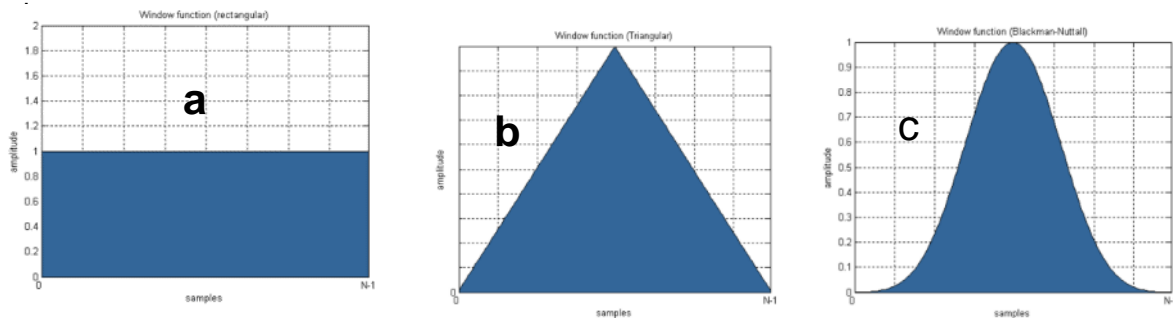

Figure 12: Filter types for the Background Subtraction Filter. (a) Rectangular, (b) Triangular (c) Blackman-Nuttall
- **Blackman-Nuttall** filter type applies more weight to the trace in the center of the window and less to the traces on the edges of the window but uses a shape similar to a Gaussian curve (Figure 12)